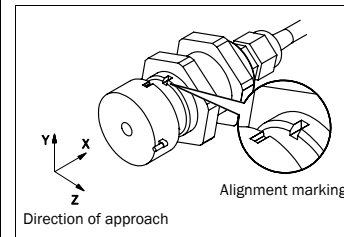

Fig. 6: Alignment of read head and actuator
- Note the possible operating positions in Fig. 6.
- the sensing faces of the sensor and actuator are congruent with each other when the protective device is closed (Fig. 6)